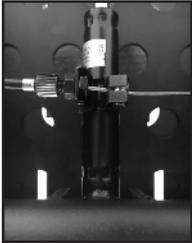

Fig. 138
2. Make sure the chrome cable end is fully seated inside adjustment. Fig. 138